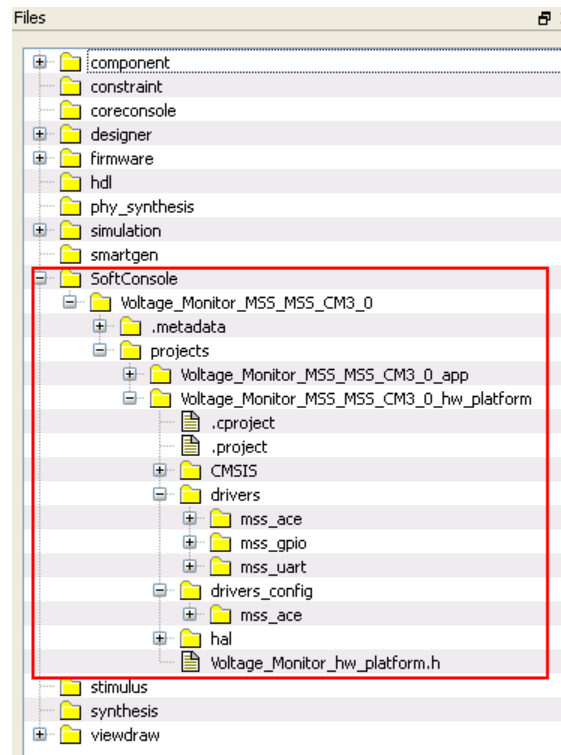

Figure 23 · Files Window
8. Confirm that the SoftConsole folder is created with the folders and files as shown in Figure 23 .